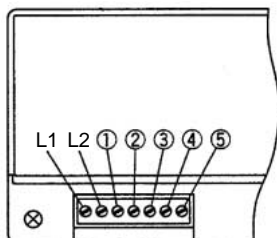

Fig 3. (MDU terminal cover come off)
Open the MDU terminal cover. Connect the FG terminal to PE terminal of holder plate. (See Fig 3 and Table 1.)
Open the MDU terminal cover. Connect the pulse output cable to 113 and 114 terminal. (See Fig 3 and Table 1.)
Open the MDU terminal cover. Connect the CC-Link shielded twisted pair cable to DA, DB, DG, SLD terminal. (See Fig 3 and Table 1.)
- ② Push MDU into the direction of an arrow. (See Fig 3.)